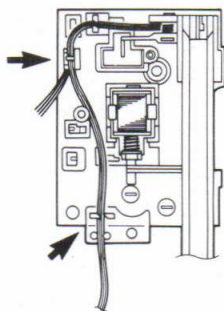

Fig. 14
4. Install the Tonearm (22), place on the Washer (209), and secure it with the Hexagonal Nut (208). Place the Tonearm's lead wire through the guide. (Figure 14)